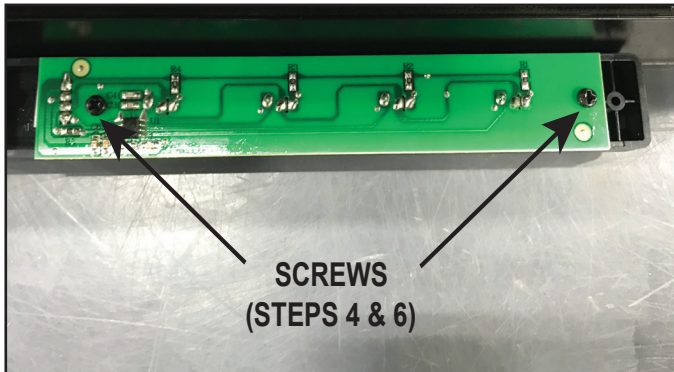

Figure 12 Touch Button board - Plastic Housing
4. Remove the two (2) screws holding the touch button assembly to the plastic housing. See Figure 12.